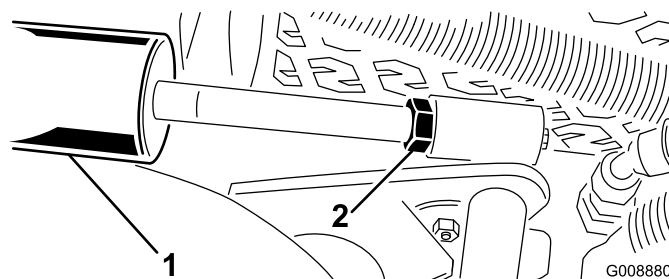

Figure 29
- A. Lower the cutting units and back off the jam nut on the cylinder (Figure 29).